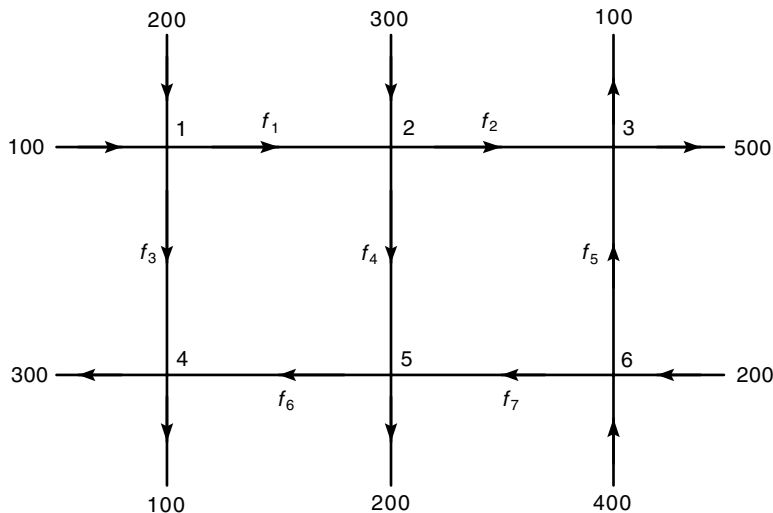

Figure P13
13. See Figure P13. Assume that no vehicles stop within the network. A traffic engineer wants to know if the traffic flows  $f_1, f_2, \dots, f_7$  (in vehicles per hour) can be computed given the measured flows shown in the figure. If not, then determine how many more traffic sensors need to be installed, and obtain the expressions for the other traffic flows in terms of the measured quantities.